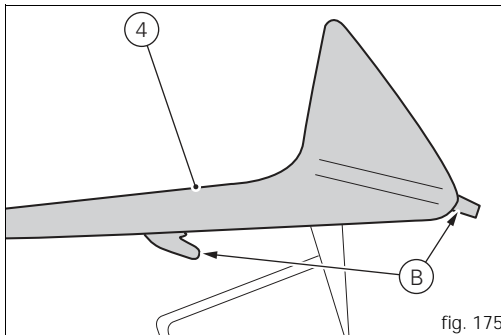

fig. 175
Reconnect the connector (5) and refit the structures that were removed being careful to insert the tabs (B, fig. 175) into the slots (A, fig. 174) made in the top fairing.